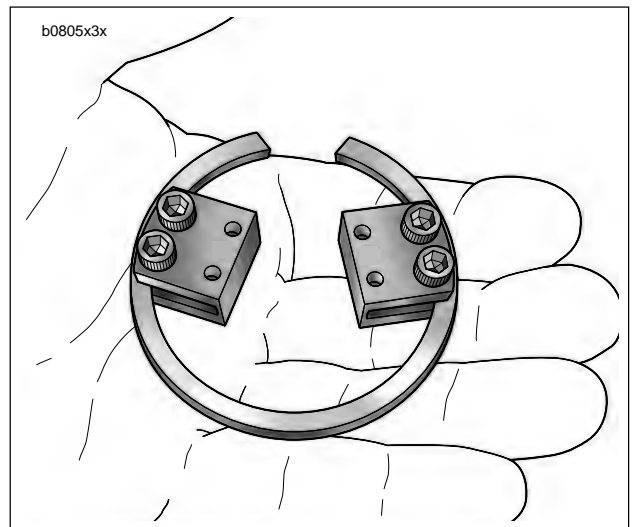

Figure 3-78. Install Claws on Snap Ring
- c. See Figure 3-78. With the gap in the retaining ring being the 12 o'clock position, place the two claws so that the slotted sides engage the inside edge of the retaining ring at the 10 and 2 o'clock positions.